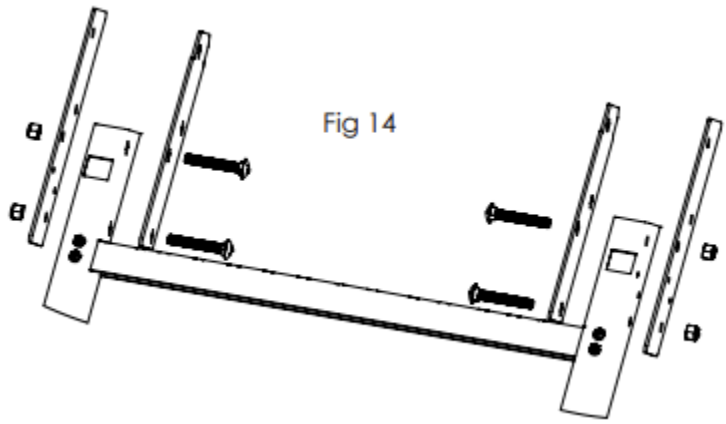

Fig 14
22. Install ladder splice plates to lower section of ladder with 4 - 3/8 x 2 1/2" carriage bolts and 4 nylon locking nuts. Do not tighten these at this time. (Fig 14)